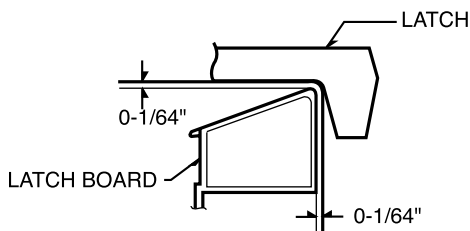

Figure 20
- (2) Close the door tightly and check gaps A and B to be sure they are no more than 1/64" (0.5 mm). See Figure 20 for close-up view of gaps A and B (door latches). If all gaps are less than 1/64" (0.5 mm), adjustment of the latch board may not be necessary. Go to Steps 5 and 6 to check the sequence of the switches.